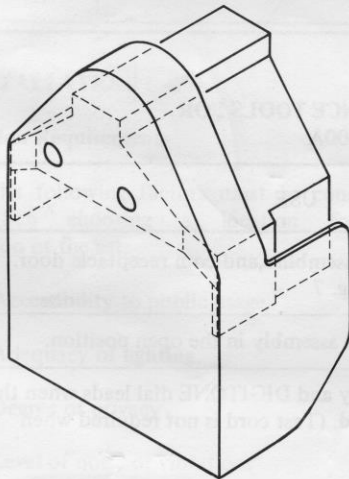

Fig. 4 — Antidrilling Relay Guard
3.02 A security kit may be ordered as a complete kit or individual items may be ordered from the codes listed in Table B. The antidrilling relay guard shown in Fig. 4 may be ordered as a guard assembly.